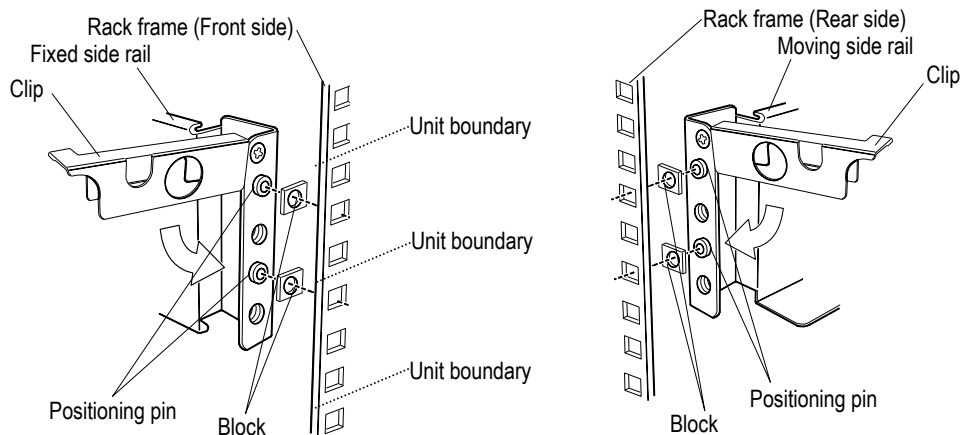

Figure 2.2.26 Installing Rack Rails (Square Hole) for Drive Box (2U)-2
- (ii) Install a block in each positioning pin of the fixed side rail (R) and moving side rail (R) (at 4 places in front and rear) (See Figure 2.2.26.)
- (iii) Fit the positioning pins for the fixed side rail (R) and moving side rail (R) in the holes in the position to be installed on the right side of rack frame (at 4 places in front and rear). (See Figure 2.2.26.)
- (iv) Close the clips for the fixed side rail (R) and moving side rail (R), and then install them in the rack.